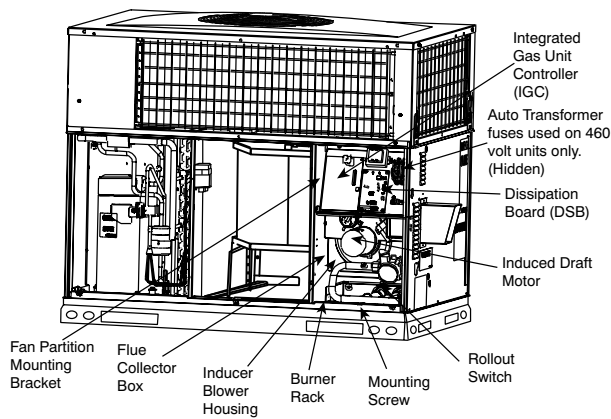
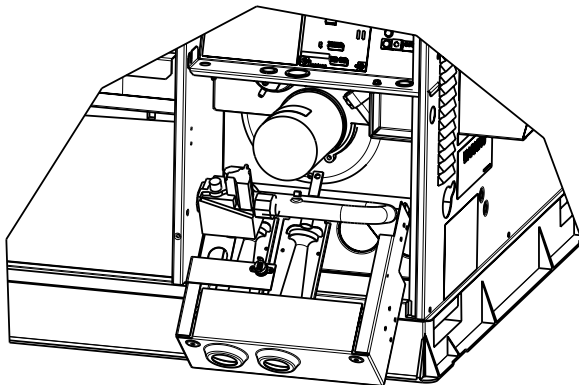

Fig. 23 – Blower Housing and Flue Collector Box
Fig. 26 – Burner Rack Removed
2. Remove the 11 screws holding the flue collector box cover (See Fig. 23) to the heat exchanger assembly. Inspect the heat exchangers.
Unit is equipped with a direct spark ignition 100 percent lockout system. Ignition module (IGC) is located in the control box (See Fig. 23). Module contains a self-diagnostic LED. During servicing, refer to label diagram or Table 7 in these instructions for LED interpretation.
5. Remove fan partition mounting bracket (2 screws located on the left side of control compartment on the fan partition panel). Slide bracket forward, bottom first to remove. (See Fig. 23).
8. Remove the mounting screw that attaches the burner rack to the unit base (See Fig. 23).
9. Slide the burner rack out of the unit (See Fig. 23 and Fig. 26).